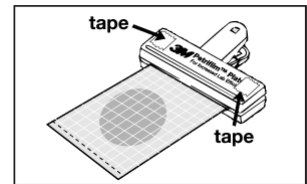

FIGURE 6
- a. Position the film so the hinged edge is put into the clip. Next, apply double-sided tape to each end of the clip. (fig. 6)